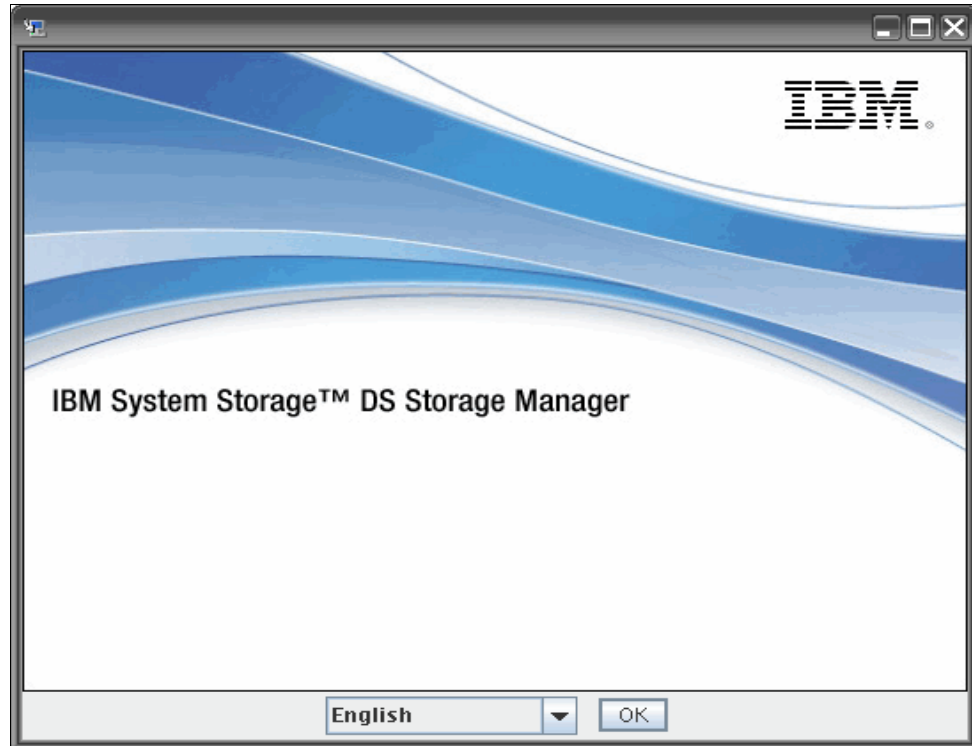

Figure 4-14 Select the language to display license agreement
3. A window opens. Select the language to display the license agreement and click **OK**, as shown in Figure 4-14.